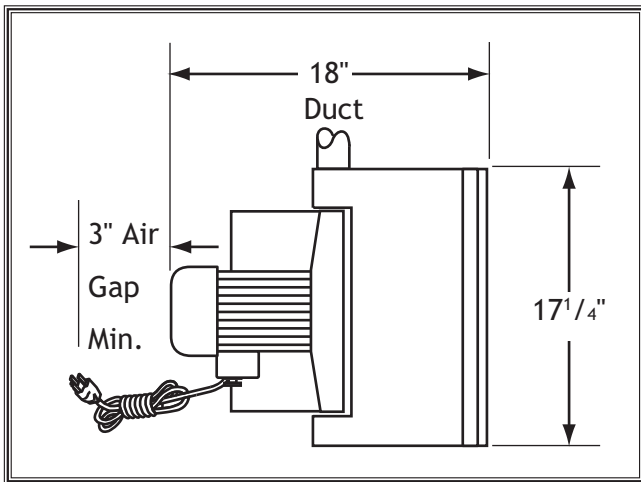

Figure 4. Working clearances.
- **Working Clearances:** Consider existing and anticipated needs, size of material to be processed through the machine, and space for auxiliary stands, work tables or other machinery when establishing a location for your sander (see Figure 4).